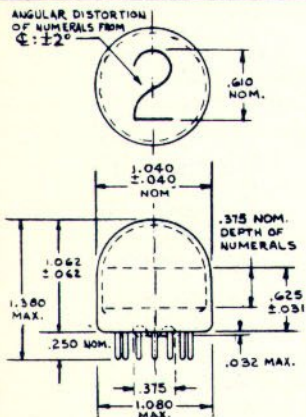
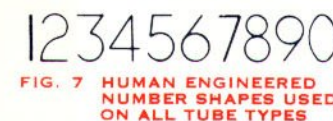
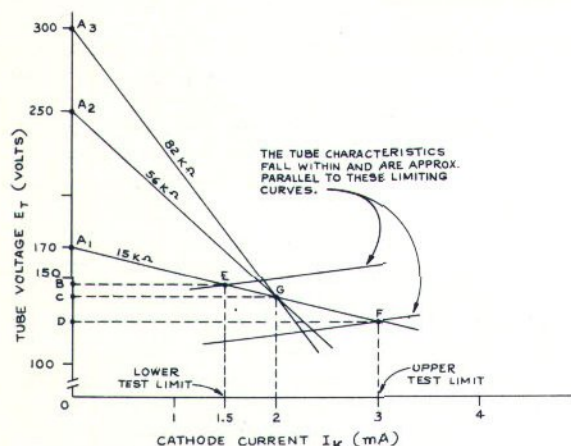

**FIG. 1 OUTLINE DRAWING FOR STANDARD TUBES**
**FIG. 7 HUMAN ENGINEERED NUMBER SHAPES USED ON ALL TUBE TYPES**
Figure 2—6844A Characteristic Curves
Figure 1 is the basic Nixie Tube test circuit. This circuit was used to obtain the characteristic curves for the family of Nixie Tubes shown in Figure 2 and Figures 7 through 12. The same circuit with fixed B+ and fixed series resistor is used as a production test for all tubes. The B+ and fixed resistor values as well as the cathode current limits for the various Nixie tubes are shown in tabulated form under the Test Conditions section of the Electrical Data portion of this brochure.
Figure 2 shows the limits of the tube voltage versus cathode current  $E_T$  vs.  $I_K$  characteristic curves for the 6844-A Nixie. The following interpretation and discussion of the 6844-A characteristic curves applies to the curves of the other Nixie Tube types shown in Figure 7 through 12. As shown in Figure 2, a 170 volt, 15 K ohm load line intersects the characteristic curves at points E and F corresponding to the cathode current limits of 1.5 Ma. and 3.0 Ma. Other recommended load lines are also shown. The minimum cathode current necessary for full glow of any cathode is slightly less than 1.5 Ma. for the type 6844-A. Increasing the cathode current results in greater intensity but shorter tube life. In order to obtain sufficient brilliancy and maximum tube life, the 6844-A cathode current should not exceed the limits of 1.5 Ma. to 3.0 Ma. The optimum design would be a constant current circuit providing a cathode current of 2.0 Ma. for this tube type.
As mentioned above, the Nixie is basically a current operated device. However, the voltage necessary to provide the required cathode current is also very important for satisfactory operation of the Nixie tube. As shown in the Electrical Data Section of this brochure, the recommended minimum supply voltage is the same as the maximum ionization voltage. This is to assure ionization and proper operation of the particular Nixie Tube type. For example, the maximum ionization voltage and minimum supply voltage for the type 6844-A is 170 volts. Although many 6844-A Nixie Tubes will ionize below point B (Figure 2), the ionization voltage range should be considered to extend up to point A, (170 volts). Therefore, A, represents the recommended minimum supply voltage. In addition, if a B+ voltage less than the minimum recommended supply voltage of 170 volts is used, a load resistor smaller than 15 K ohms would be necessary to establish the average cathode current of 2.0 Ma. for the 6844-A. The resulting loadline would intersect the limiting characteristic curves above and below the recommended cathode current limits. Again, this infers that a supply voltage of less than the B+ used in the production tests is not good engineering practice and is not recommended.
In figure 2, points E and F projected onto the ordinate establish points B and D. The distances OB and OD, therefore, represent the limits of sustaining or tube voltage drops as the operating point moves along the 15 K ohm loadline from point E to point F.
of the "high current" Nixie tube (point D, Figure 1). The lower limit of the pre-bias voltage is determined by the objection to the eye of the background haze. It should be noted that a red filter e.g. wratten "A" minimizes the background glow in the Ultra Long Life Series and as a result a lower pre-bias voltage than shown in the following chart (for the Ultra Long Life Series) can be used. As a rule of thumb, the lower limit of pre-bias voltage is one-half of the sustaining or operating voltages (voltage between "on" cathode and anode). The table below illustrates typical pre-bias voltage limits:
**TRANSISTOR DRIVE:** The pre-bias limits of the Nixie tube imposes voltage requirements on transistors used to drive them. The pre-bias voltage is the back voltage requirement imposed on the transistor. This implies that transistors with 75 to 100 volt ratings are required. Two such transistors are the RCA 2N398 and GT 1200. The 2N398 is a PNP Xistor and requires nine transistors to be conducting. The "cut-off" 2N398 would be associated with the "on" Nixie tube cathode. The GT 1200 is a NPN Xistor and the one associated with the "on" cathode would be conducting. There are many other transistors capable of driving the Nixie tubes. The Nixie tube types more compatible with transistors are the 7009 and B4021 (BD-244). Both of these tubes can be pre-biased to a lower voltage and hence require a lower drive signal. The difference in the tubes as noted in Figure 7 are the tighter production limits and lower B+ voltage requirements for the B4021.
For optimum results, the impedance in the cathode circuit of the Nixie Tubes should be low. The rotary selector switch used in Figure 1 is a good example. It is possible, however, to adopt this technique to those circuits where the Nixie Tube cathodes are energized by vacuum tubes or other electronic means.